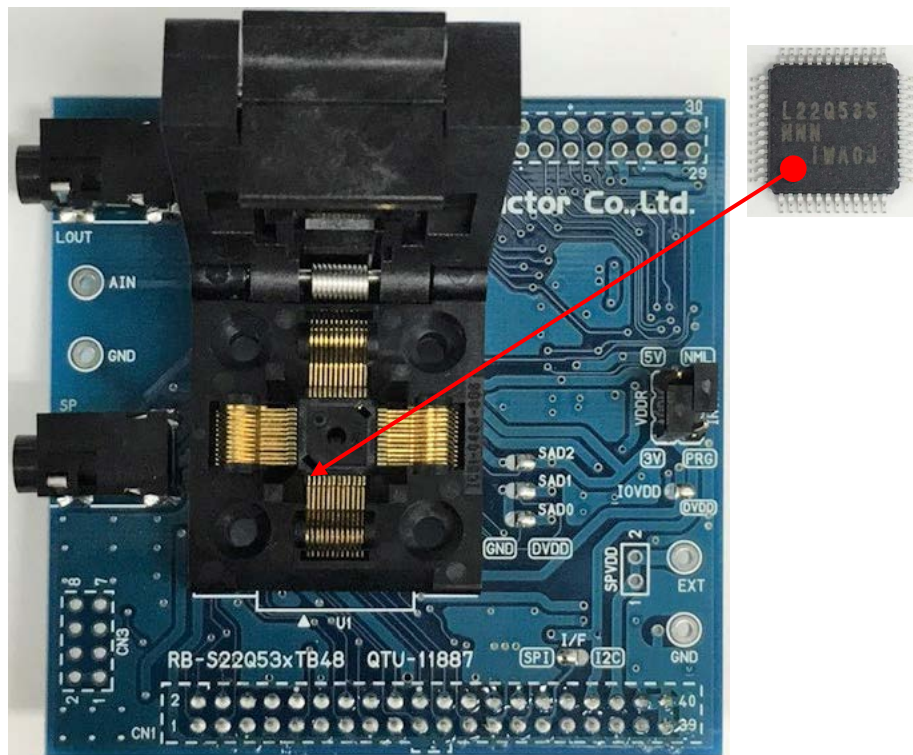

Figure 1 Outline Diagram
- Turn off the power when loading Speech Synthesis LSIs into the RB-S22Q53xTB48. Pin 1 is the position of the board silk ▲ at the bottom left with respect to the socket opening. The Figure 1 shows the setting directions of Speech Synthesis LSIs.